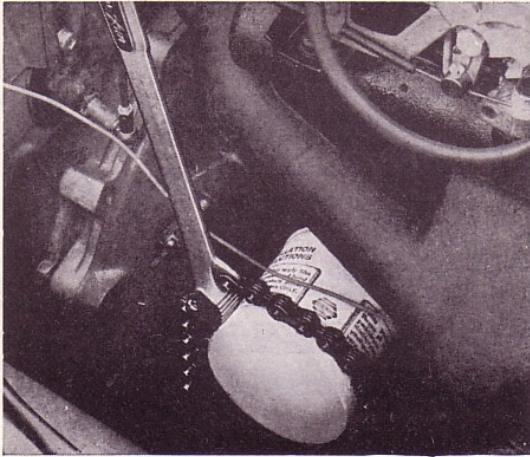

Fig. 57. Removing the oil filter
1. Remove the old filter with the help of chain tongs as shown in Fig. 57.